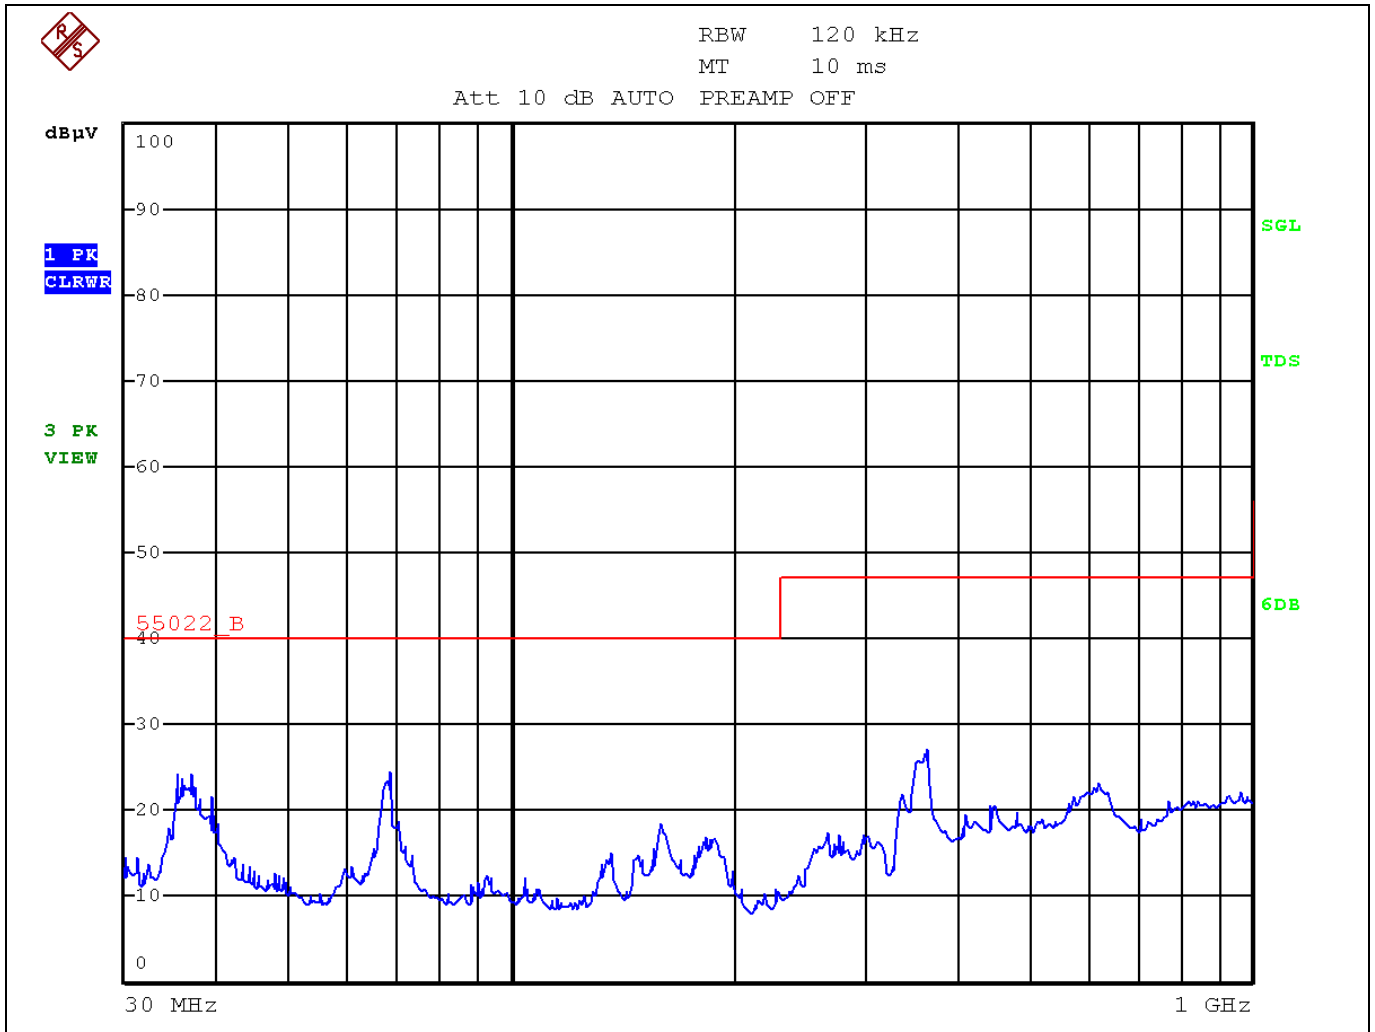

Figure 11 EMI-radiated results for EVK with ferrite filter. Board turned CW 90°. Antenna position is Horizontal.
- Board was positioned towards the antenna and the antenna was vertical (Figure 11)